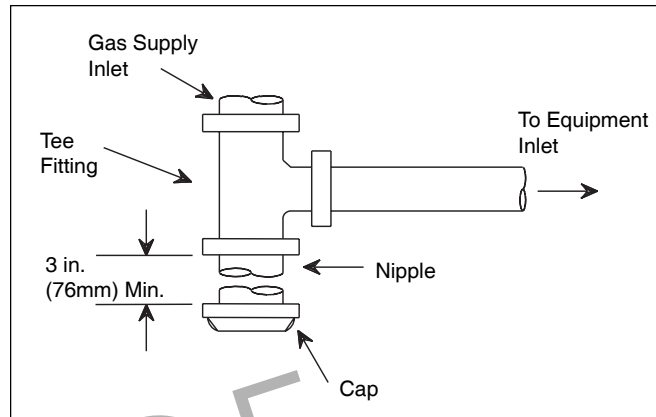

Figure 4. T-Fitting Sediment Trap Installation.
4. Install a sediment trap (drip leg) ahead of the gas controls (see Figure 4). Fit the trap with a threaded cap which can be removed for cleaning.